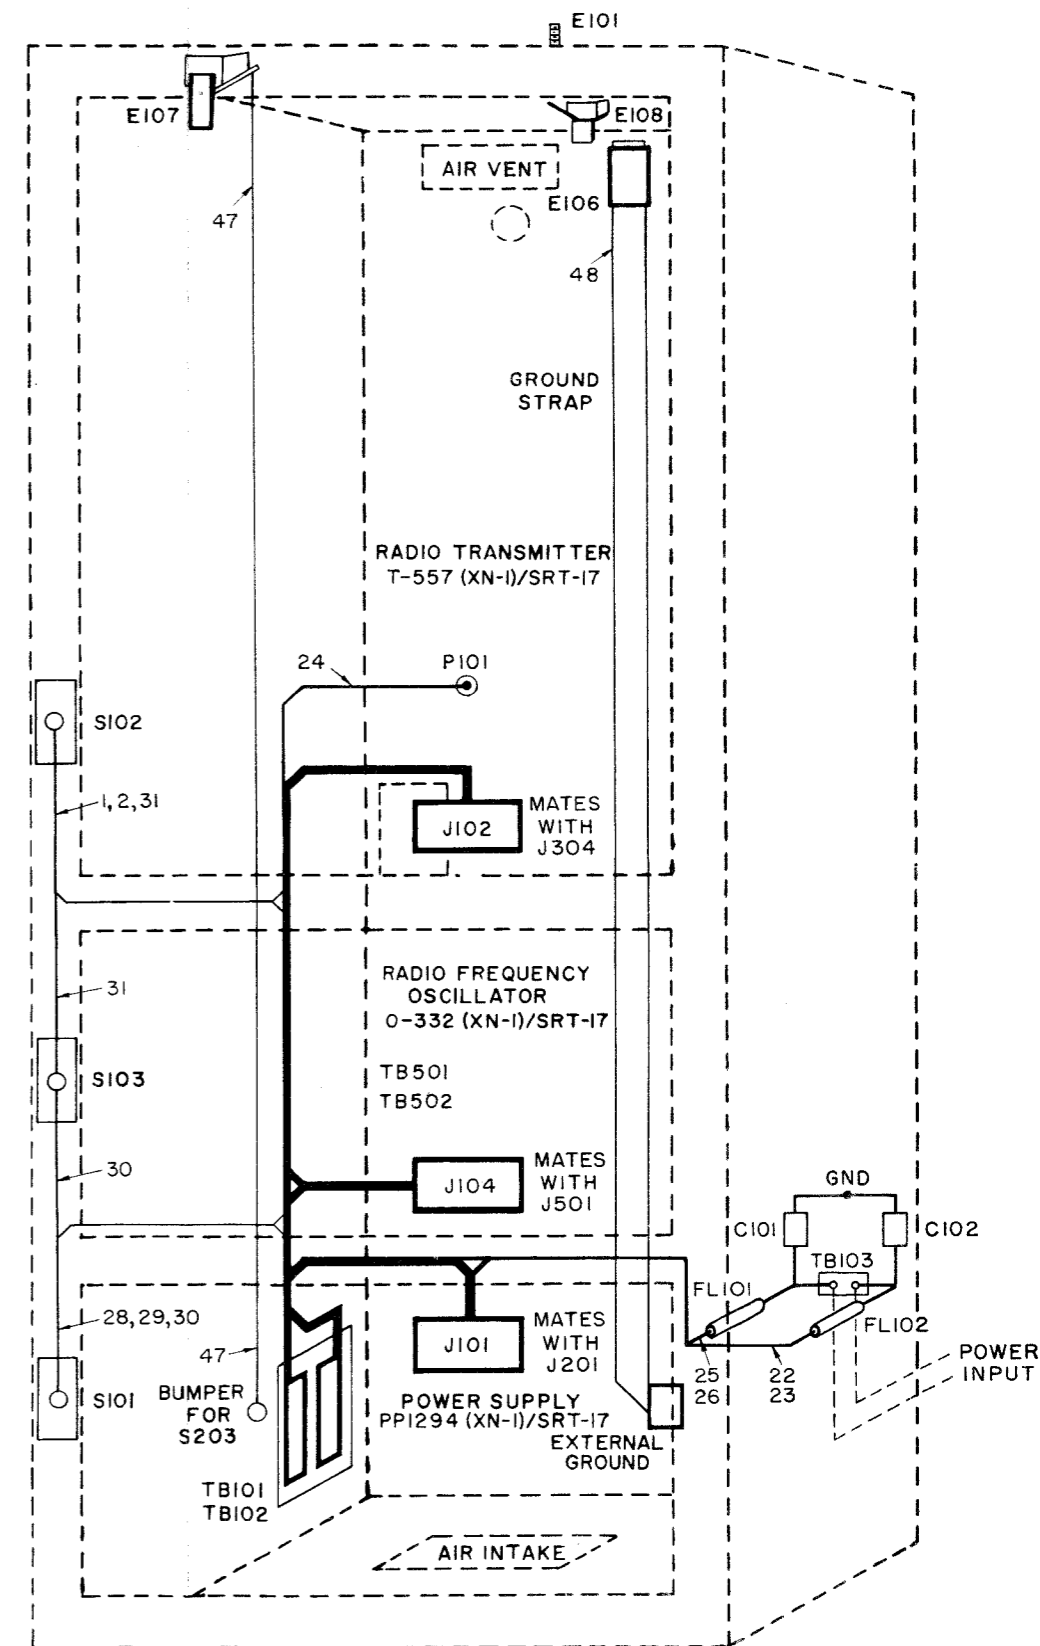

Figure 3-5. AN/SRT-17(XN-1) Internal Cabling Diagram
(1) **Connections:** All plug and jack connections should be tight. Terminal screws on terminal boards should be tight. Refer to figure 3-5 and photographs in Section 7 for location of parts.